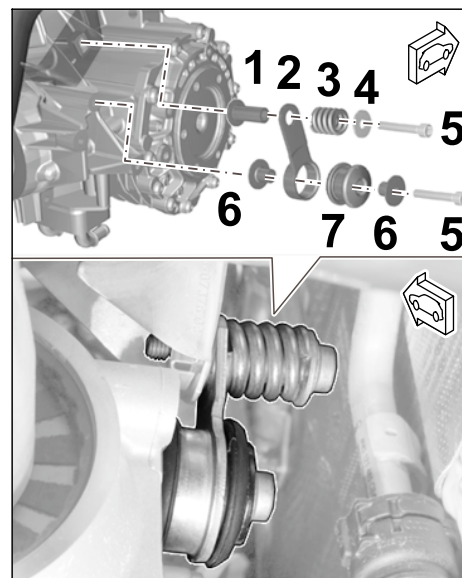

Figure 40
- 4.1 Install new exhaust pipe(s) with front silencer with a new seal and new spring/tab assembly (⇒ *Figure 40*):